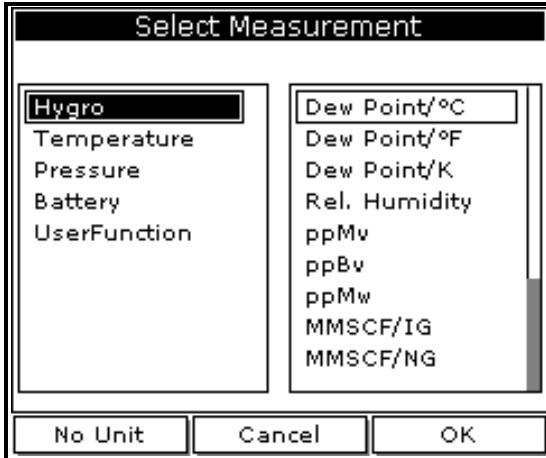

Figure 37: Select Measurement Window
1. Use the [▼] key to step to a box and press [ENTER]. A screen similar to Figure 37 appears.